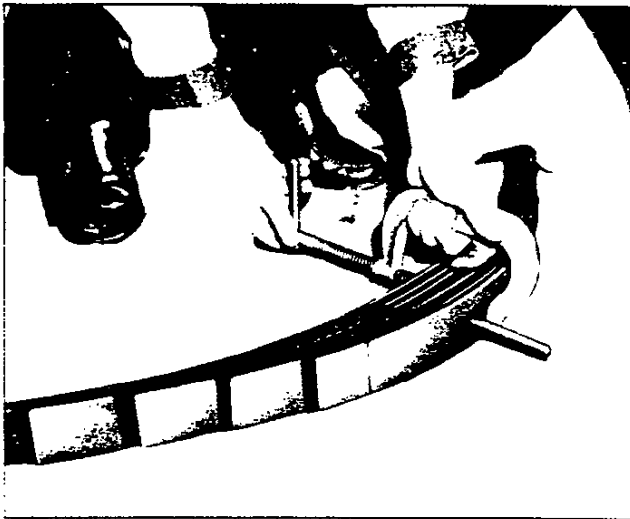

Fig. 22—Aligning Spring Leaves
5. Insert drift into center bolt holes in leaves to align spring leaves (fig. 22). Install center bolt and tighten securely.